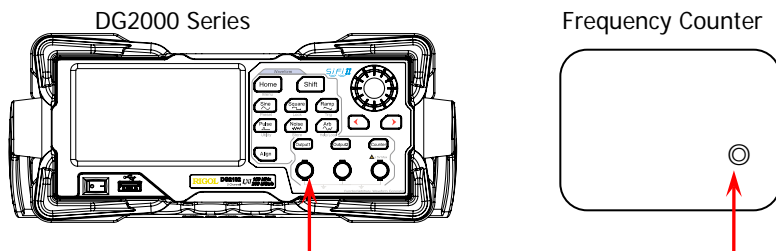

Figure 2-1 Connect DG2000 and the Frequency Counter
1. Make sure that the environment temperature is between 18°C and 28°C and DG2000 has been warmed up for at least 30 minutes. Connect the channel output terminal (take CH1 as an example; the test method is also applicable to CH2) of DG2000 with the signal input terminal of the frequency counter using a dual-BNC cable as shown in Figure 2-1.